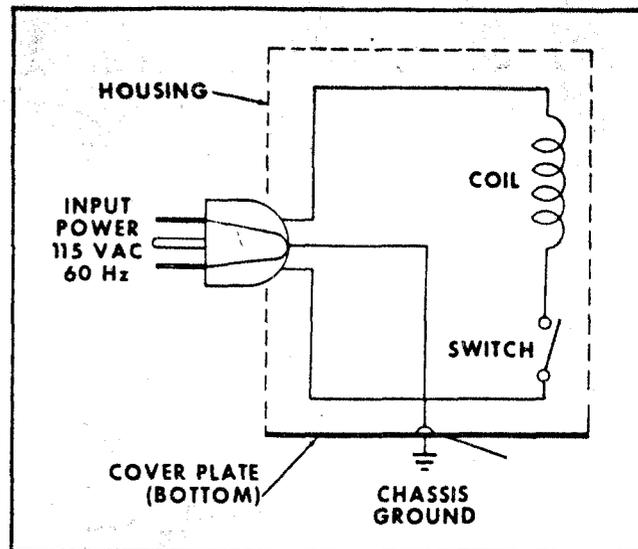
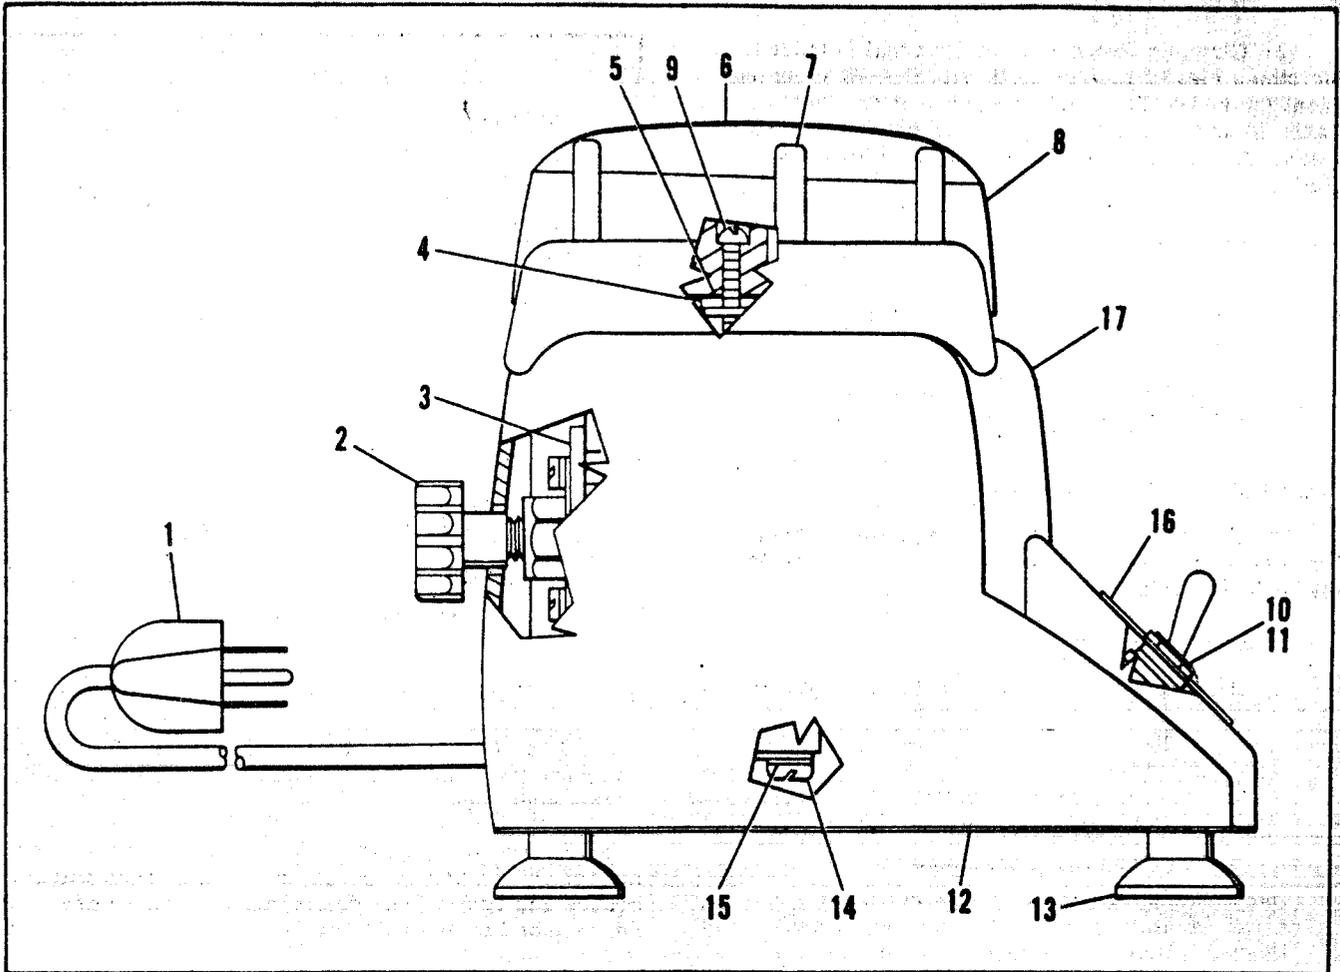

Figure 3. Wiring Diagram
Figure 4. Pipette Shaker Assembly
(1) Turn on input power switch.
(2) Adjust plastic knob for desired amount of agitation. Mid range speed is preferable.
a. Disassembly. (See figure 3 and 4.)
c. Inspection. (See figure 4.)
(1) Inspect all components to make certain there is no obvious damage, corrosion, or evidence of overheating.
(2) Inspect all wires or parts to make certain there are no loose connections or signs of aging.
(3) Inspect all threaded surfaces for evidence of cross threading or stripping.
(4) If wire is suspected of being faulty, check for continuity using an ohmmeter or other suitable low-voltage device.
d. Repair. (See figure 4.)
(1) Replace all parts that do not pass inspection or are damaged beyond minor repair.
(2) Thoroughly clean all parts that undergo repair as outlined in paragraph 4b(2).
e. Assembly. (See figure 4.)
(1) Assemble all removed parts observing the following specific procedure:
(2) Refer to figure 3 for correct wiring information.
g. Troubleshooting. Refer to Table III for troubleshooting of the pipette shaker assembly, and refer to figure 4 for index numbers.
5. ILLUSTRATED PARTS LIST. (See figure 4.)
f. Attaching Parts. Screws, nuts, bolts, etc., which serve as attaching parts for frequently detached items are listed immediately following and with the same indentation as the item they attach. They are designated (AP) following the description of an item.